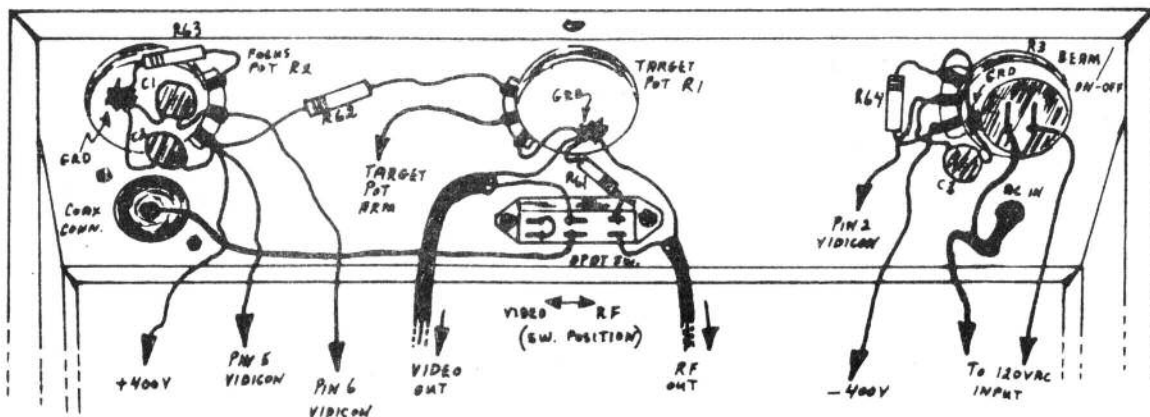

Fig. 9 Rear panel control circuit pictorial.
- () 21. Wire up the control circuit components mounted on the rear panel following the pictorial shown in fig. 9 and the pointers listed below.